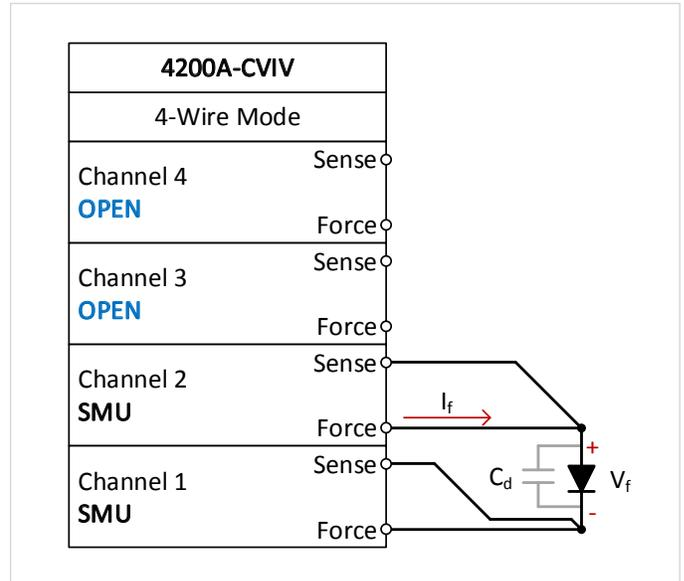

Figure 6. Configuration for I-V characterization of a diode using the 4200A-CVIV.
**Figure 6** shows the device connections and 4200A-CVIV settings for an I-V test on a diode. All of the DC I-V characteristics of the diode are collected in this configuration. The connections to the diode are made with triaxial cables, Model 4200-TRX-.75 (75cm or approximately 30 inches). These shielded cables are used to ensure that both very low current I-V measurements and high frequency AC measurements can be made with high accuracy. The device can be a packaged part in a test fixture or located directly on a wafer in a probe station.
The gray capacitor in **Figure 6** ( $C_d$ ) is the parasitic capacitance of the PN junction. The I-V test does not provide information about this parasitic capacitance. A C-V test is necessary to characterize the capacitance of the device.